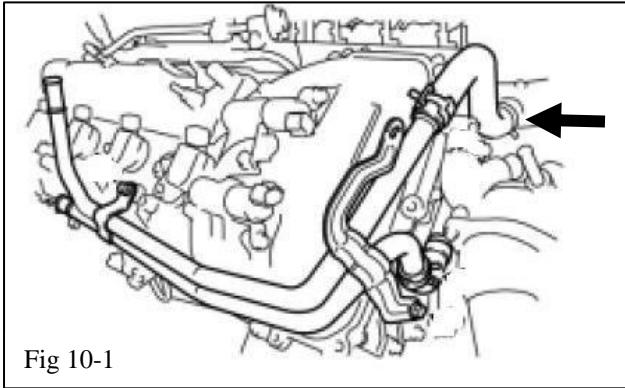

Fig 10-1
- (a) Re-connect the No. 2 water by-pass hose to the water by-pass joint using the original clamp (Fig 10-1).